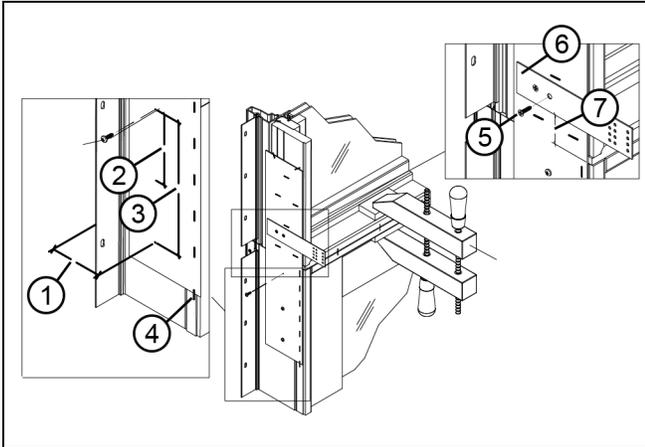
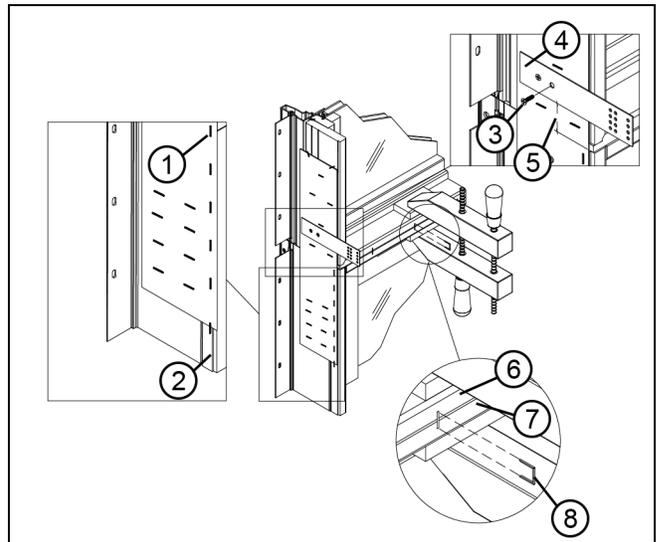

Figure 24 Inswing Door
Figure 25 Outswing Door
4. Center mulling tin over mullion and secure with 1/2" x 1/2" 16 gauge staples as shown in Figure 24 (Inswing) and Figure 25 (Outswing).
5. On Inswing units, drill three pilot holes 3 1/8" (79) in from the exterior face on each side of the door unit through mulling tin into the Ultrex jamb using a 7/64" (3) drill bit. See illustration 16. Make sure not to drill past the first thickness of Ultrex. Secure with #8 x 3/8" screws provided.